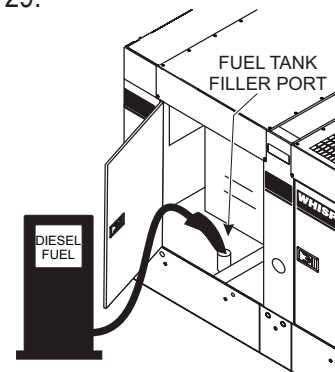

Figure 29. Fueling The Generator
2. Remove the fuel cap and fill the fuel tank as shown in Figure 29.